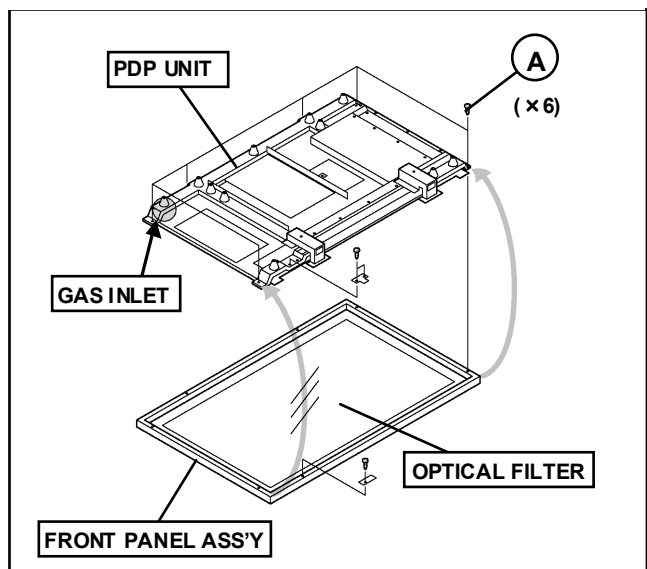

Fig.3
- 1. Remove the 6 screws marked **A** as shown in Fig.3.